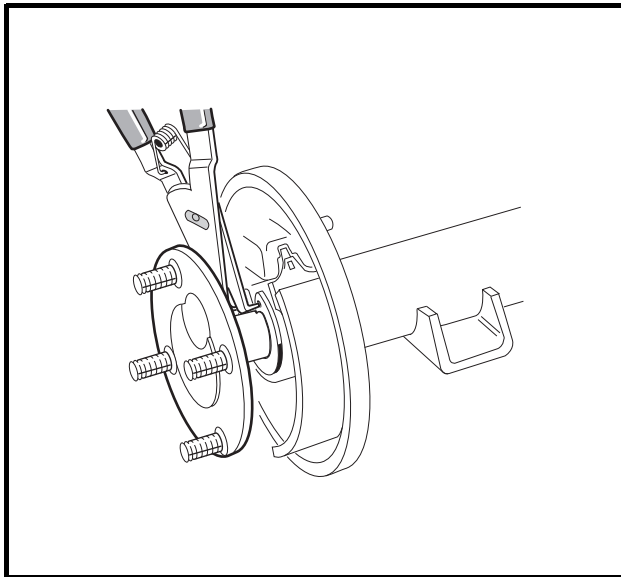
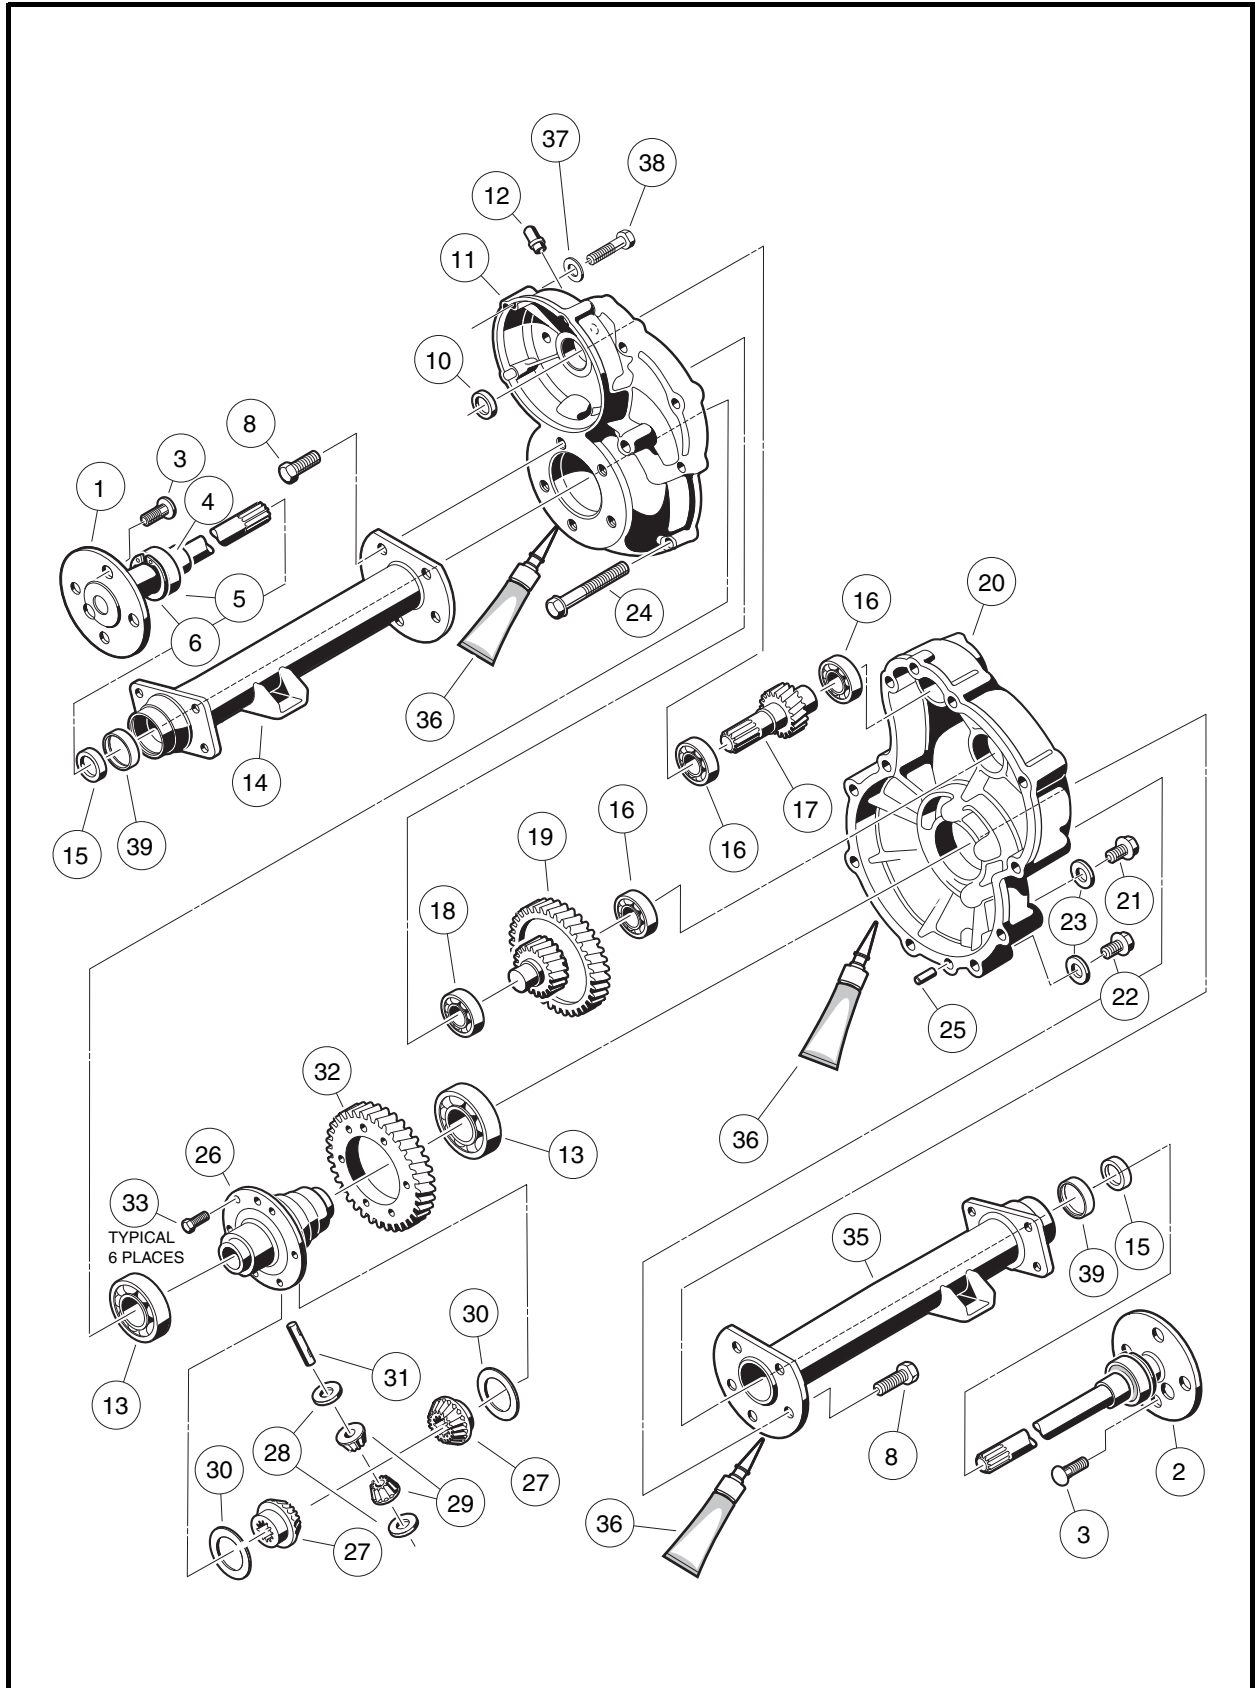
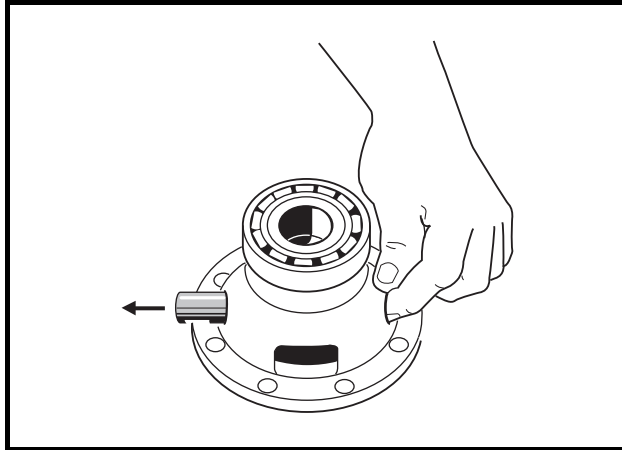

Figure 17-1 Axle Tube
Figure 17-5 Transaxle – Type G
Figure 17-15 Differential Pin
There are two plugs located on the lower half of the transaxle housing. The upper plug (21) (as viewed when the vehicle is on a level surface) is used as a lubricant level indicator (**Figure 17-5, Page 17-3**). When the vehicle is parked on a level surface, the lubricant level should be even with the bottom of the hole. The lower plug (22) is for draining the lubricant. When draining the lubricant, the upper plug should be removed so the lubricant will drain faster. Be sure the drain plug is installed before filling. **See following NOTE.**
4. Use 90° internal snap ring pliers to remove the internal retaining ring (6) from the axle tube (**Figure 17-5, Page 17-3**). **See also Figure 17-1, Page 17-2.**
8. Inspect bearing (5) (**Figure 17-5, Page 17-3**). If the bearing in a Type G transaxle is worn or damaged, the entire axle shaft assembly (1 or 2) must be replaced.
- 1.3. Clean adapter ring seat(s) in the axle tube (14 or 35) (**Figure 17-5, Page 17-3**).
- 2.1. Insert the shaft, splined end first, through the seal and into the axle tube. Be careful not to damage the seal on the inside of the axle tube hub. Advance the shaft through to the bearing on the shaft, then rotate it to align the shaft splines with the splined bore of the differential side gear (27) (**Figure 17-5, Page 17-3**). Continue advancing the shaft until the bearing on the axle is firmly seated within the axle tube hub seat.
- 2.2. Use a pair of snap ring pliers to install the retaining ring (6) inside axle tube hub so that it seats against the axle bearing assembly and into the machined slot in the inside wall of the axle tube hub (**Figure 17-5, Page 17-3**). **See following NOTE.**
- NOTE:** *If the retaining ring (6), axle bearing (5), or sleeve (4) must be replaced, the entire axle shaft assembly (1 or 2) must be replaced (**Figure 17-5, Page 17-3**).*
Do not remove the axle bearing (5) from a Type G transaxle. If bearing is worn or damaged, the entire axle assembly (1 or 2) must be replaced (**Figure 17-5, Page 17-3**).
1. To detach axle tubes (14 and 35) from the transaxle housing, remove the bolts (8) (**Figure 17-5, Page 17-3**).
2. Remove 11 bolts (24) that hold housing together.
3. Pull the halves of the housing (11 and 20) apart. If necessary, tap lightly on the spline of the input pinion (17). **See following CAUTION.**
4. Remove input pinion gear (17) by pulling gear out while rocking intermediate gear assembly (19). Lift intermediate gear assembly and differential gear case unit out simultaneously (**Figure 17-5, Page 17-3**). **See following CAUTION.**
5. Use a bearing puller or arbor press to remove bearings (16) from the input pinion gear. If the oil seal (10) is damaged, replace it (**Figure 17-5, Page 17-3**). **See also Figure 17-13, Page 17-8. See following CAUTION.**
6. To disassemble the intermediate gear assembly, press off together the bearing (16) and the gear (19) (**Figure 17-5, Page 17-3**). **See also Figure 17-13, Page 17-8.**
7. Press the bearing (18) off the intermediate gear assembly (**Figure 17-5, Page 17-3**).
- 8.1. Remove the hex bolts (33) and the ring gear (32) from the differential case (**Figure 17-5, Page 17-3**).
- 8.4. Remove the differential pin (31) by pushing pin through differential gear case from one side (**Figure 17-5, Page 17-3**). See also **Figure 17-15, Page 17-9**.
8.7. Inspect the bearings (13) of the differential case (26) and replace them if they are damaged (Figure 17-5, Page 17-3). To remove them, press them off. **See following CAUTION.**
1. If bearings (13) were removed during disassembly, install new bearings using an arbor press (Figure 17-5, Page 17-3).
- 2.1. Install the pin (31) (Figure 17-5, Page 17-3). Apply a small amount of oil to all thrust plates and to both ends of the pin.